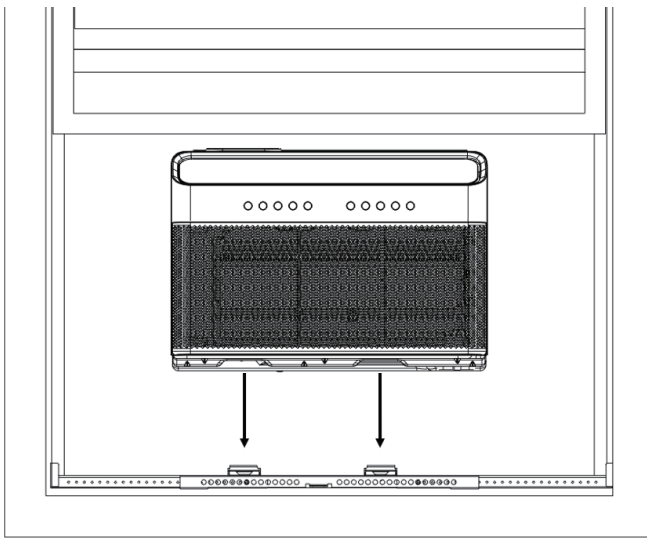
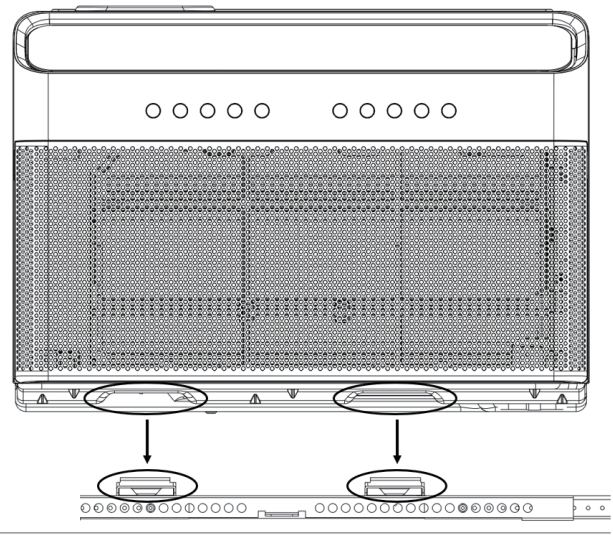

Fig. 12
Fig. 13
A. Set the air conditioner on top of the support bracket. Ensure the grooves on the bottom of the air conditioner align with the **Main Supports**. Please refer to **Fig. 12 & Fig. 13** below. Using a level, ensure that the unit has the proper amount of tilt towards the outside.